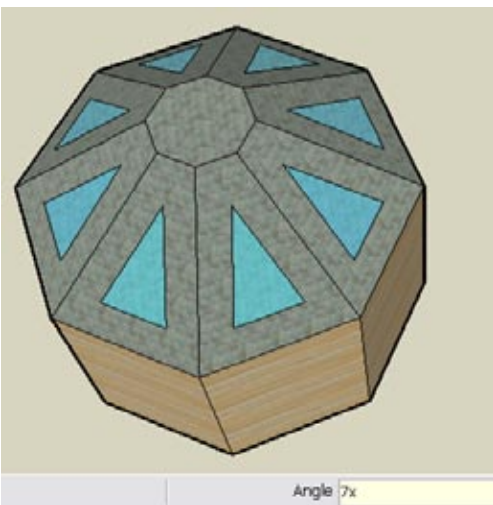

Figure 1-46
8. Enter 7x, and you have eight total windows (Figure 1-46).